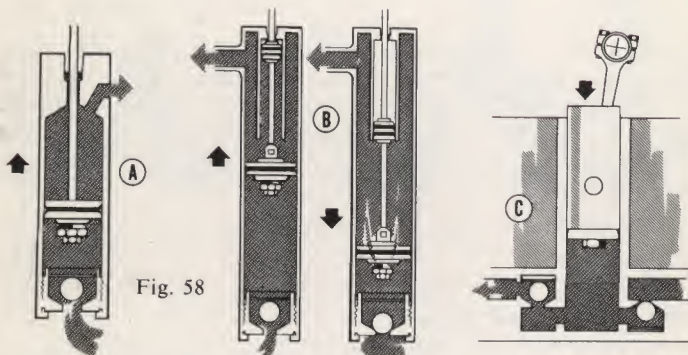

Fig. 58
67. What are the principal types of piston pumps? (See Fig. 58)